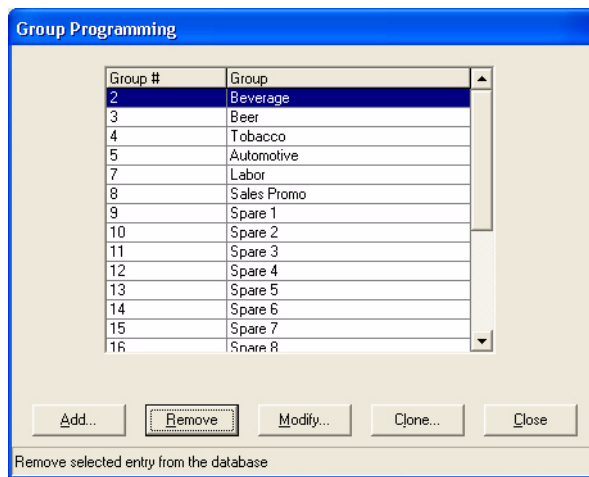

Figure 10-2 Group Programming Window
1. Access the Group Programming window by selecting **Cash Register > Non-Fuel > Group**. See Figure 10-2.